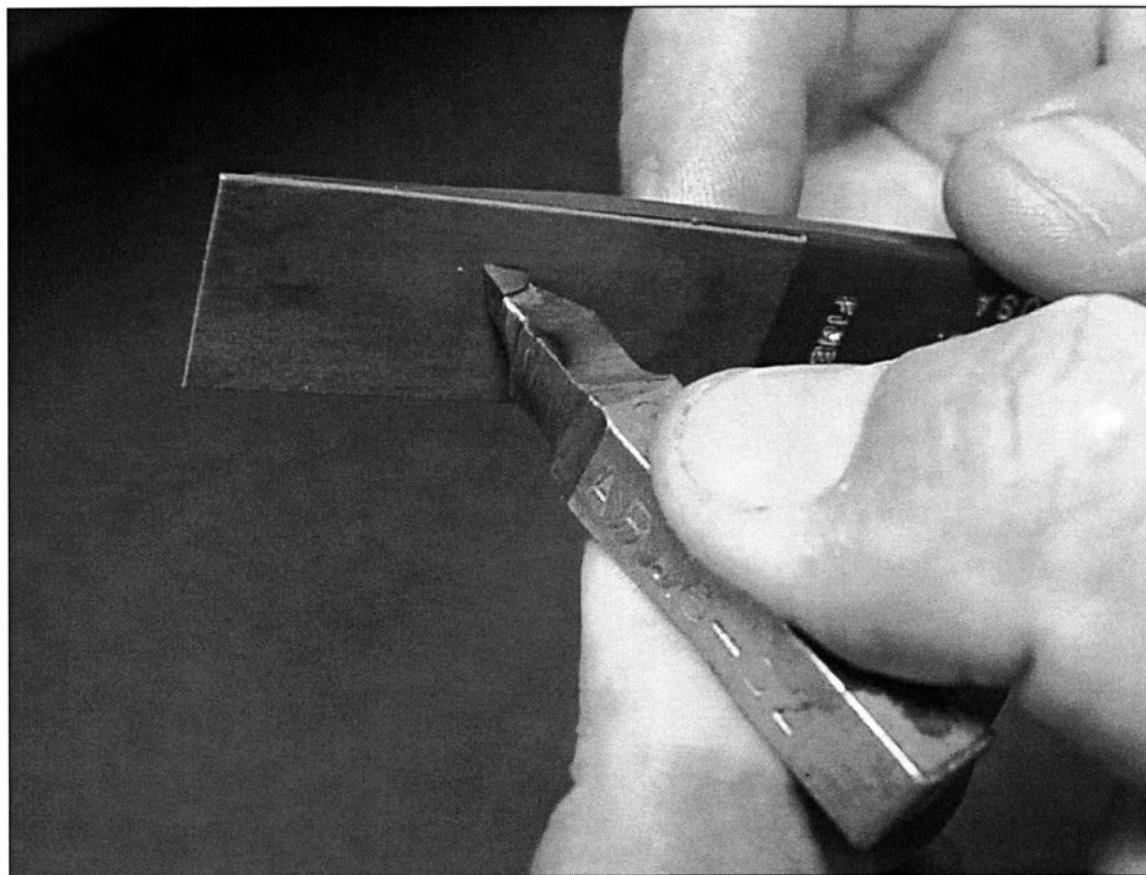

FIGURE 4-3 A diamond lap is used to hone a smooth round cutting tip on this lathe tool. This lap was made by EZE-LAP Diamond Products.
4. *Use a flat diamond lap to hone cutting tools. (See Fig. 4-3)*